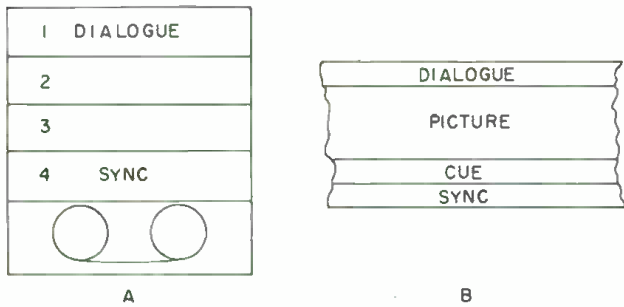

Figure 1. (A) This is what is recorded on audio tape; and (B) is the same program recorded on video tape.
What we have recorded on audio tape on Monday is shown in FIGURE 1(A) and on video tape in FIGURE 1(B). On audio tape we have dialogue on track one and sync on track four. This leaves track two and track three available for music and sound effects, respectively. Video tape, on the other hand, has recorded dialogue on the top (audio) portion of its tape, picture in the center section, a cue* track below the picture, and sync track on the bottom edge.